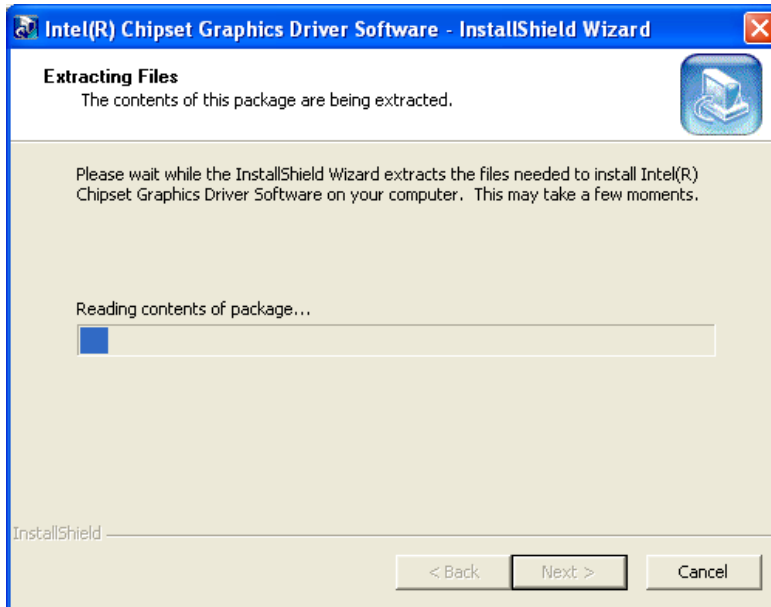

Figure 6-8: Graphics Driver Setup Files Extracted
Step 6: The installation files are extracted. See Figure 6-8.